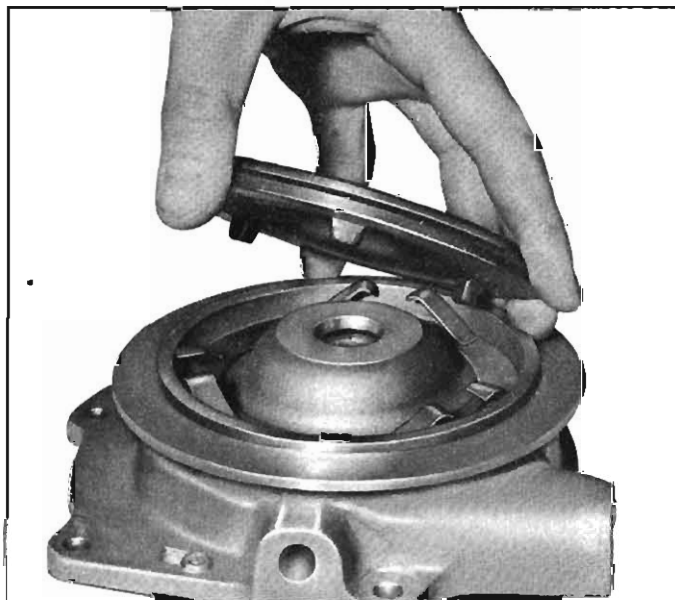

Fig. 9-51—Heat Shield Spring Ring Installation
10. Turn the bearing housing over (on ring support tool) and install spring ring. Position the turbine shield to install with three projections spaced over flat areas of the spring ring (fig. 9-51).